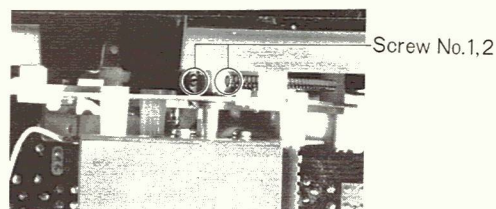

Fig. 10
2. Loosen the two (2) screws (nos. 1 & 2) for the tuning capacitor shaft, as shown in fig. 10.